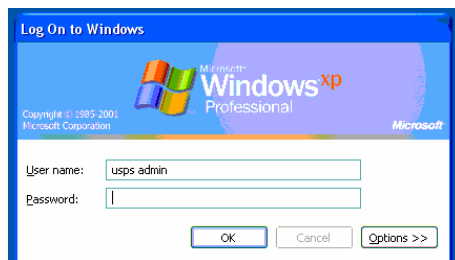

Figure 1-256. Login as 'usps admin'
22. Continue holding the **Shift** key until the “Log On to Windows” popup is displayed (Figure 1-256).